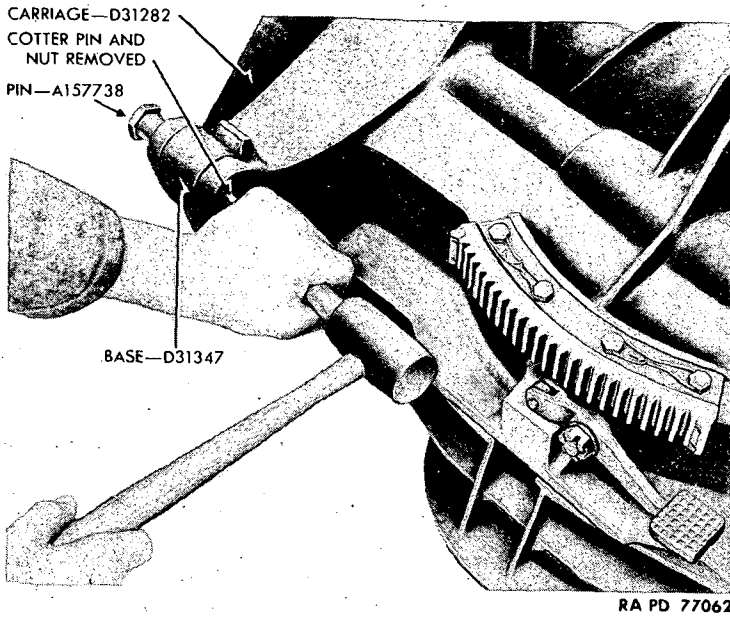

Figure 137—Removing Firing Base
(8) REMOVAL OF FIRING BASE (fig. 137).
(4) **INSTALL FIRING BASE** (figs. 137, 141, and 142).
(b) Line up the arms of the firing base with the firing base hinge pin brackets on the bottom carriage. Drive the hinge pins into place in firing base and bottom carriage from the outside (fig. 137). Secure with nuts and cotter pins.